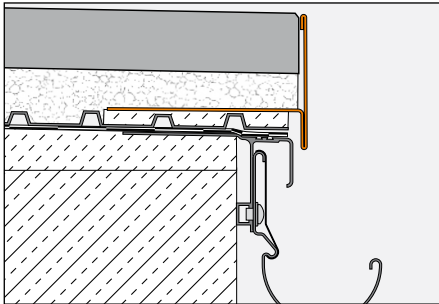

Fig. 1
Installation with self-supporting pavers on gravel/crushed stone beds with BARA-RT (Fig. 1)
3. If BARA-RT is used as a gravel retaining edge (Fig. 1), the loose gravel should reach just below the upper edge of the vertical profile leg in such a way that it corresponds to the thickness of the covering. Next, place the concrete pavers loosely on the levelled gravel bed.